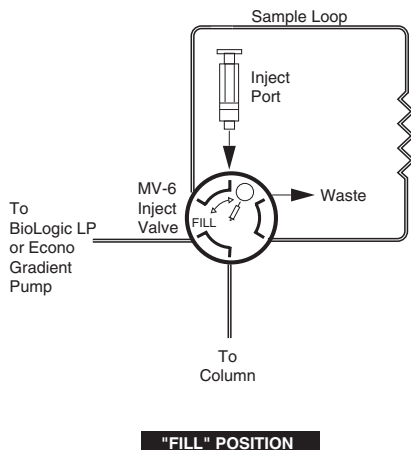

Fig. 7.
1. Turn the MV-6 injector valve knob counterclockwise as far as it will go as shown in Figure 7.